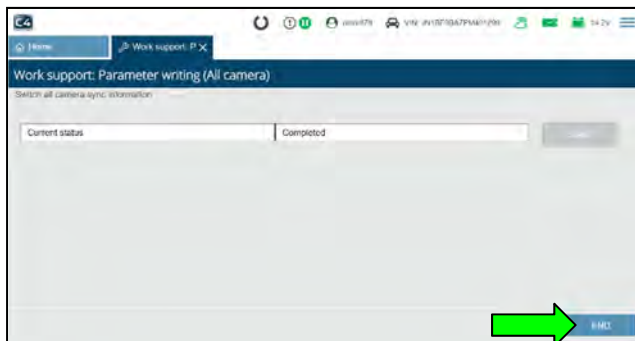

Figure 16
HINT: It may take up to 5 minutes for the screen in Figure 16 on page 11 to display once the green Play icon is selected.
- If the **Parameter writing** is successful (Figure 16), select **END** and then continue to step 15 on page 12.